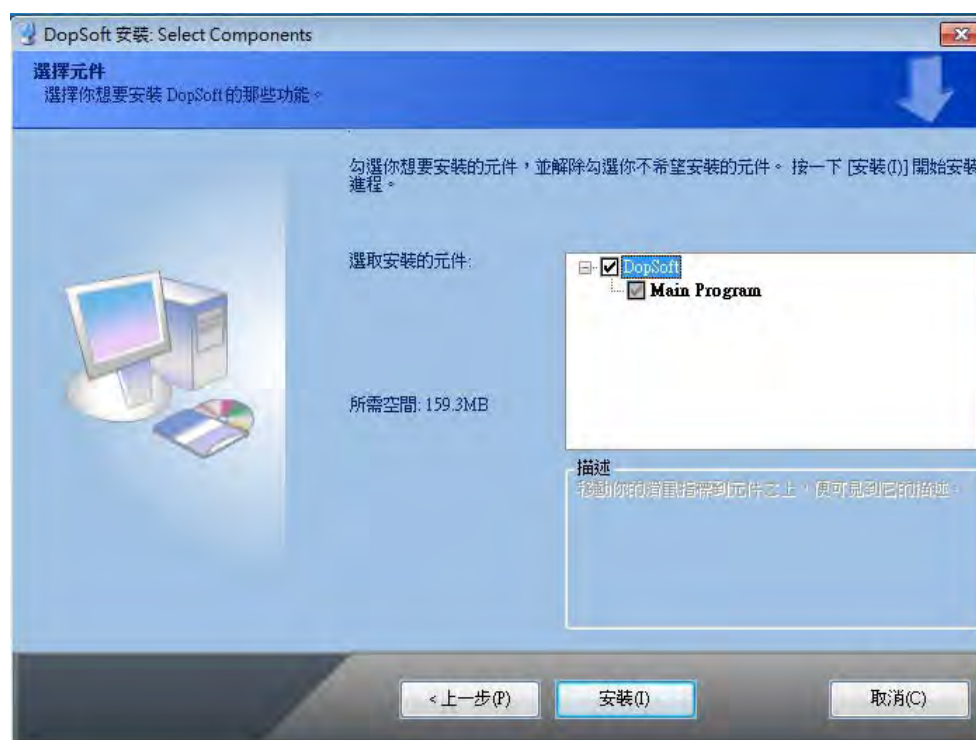

Figure 2-1-11 Select components in Windows 7
- ◆ Please check if the DOPSoft device is checked, as shown in Figure 2-1-11 below, followed by clicking [Install].